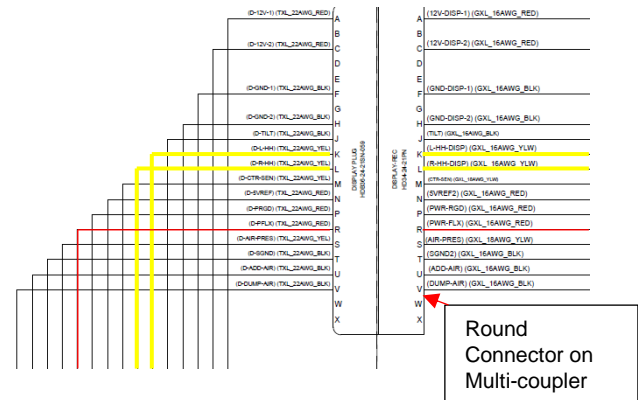
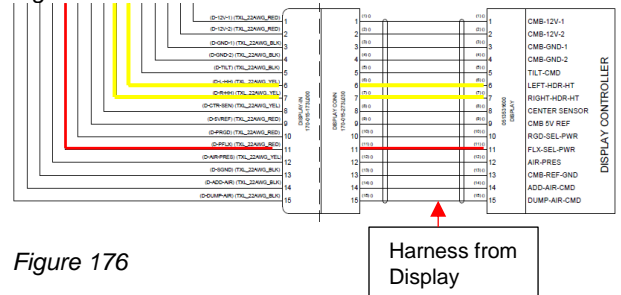

Figure 175
Figure 176
11. Section A Figure 175 and Figure 176 shows a closer view of the connector that attaches the display to the main harness at the Multi-Coupler.